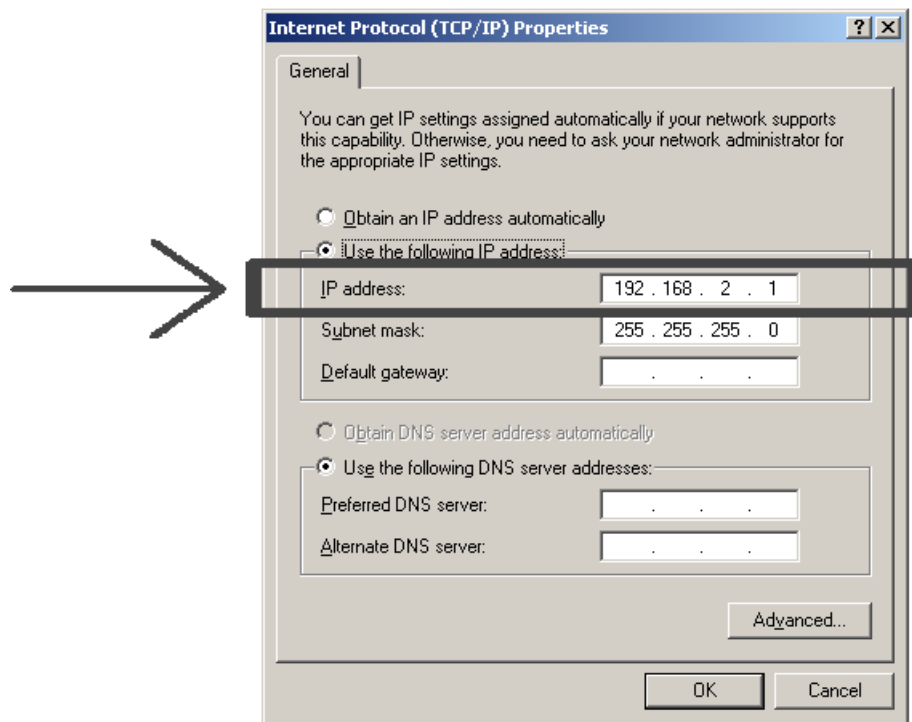

Fig.132 - Finding the IP address
- 4) In the **Internet Protocol Properties** window of fig. 132, take note of the IP address (could